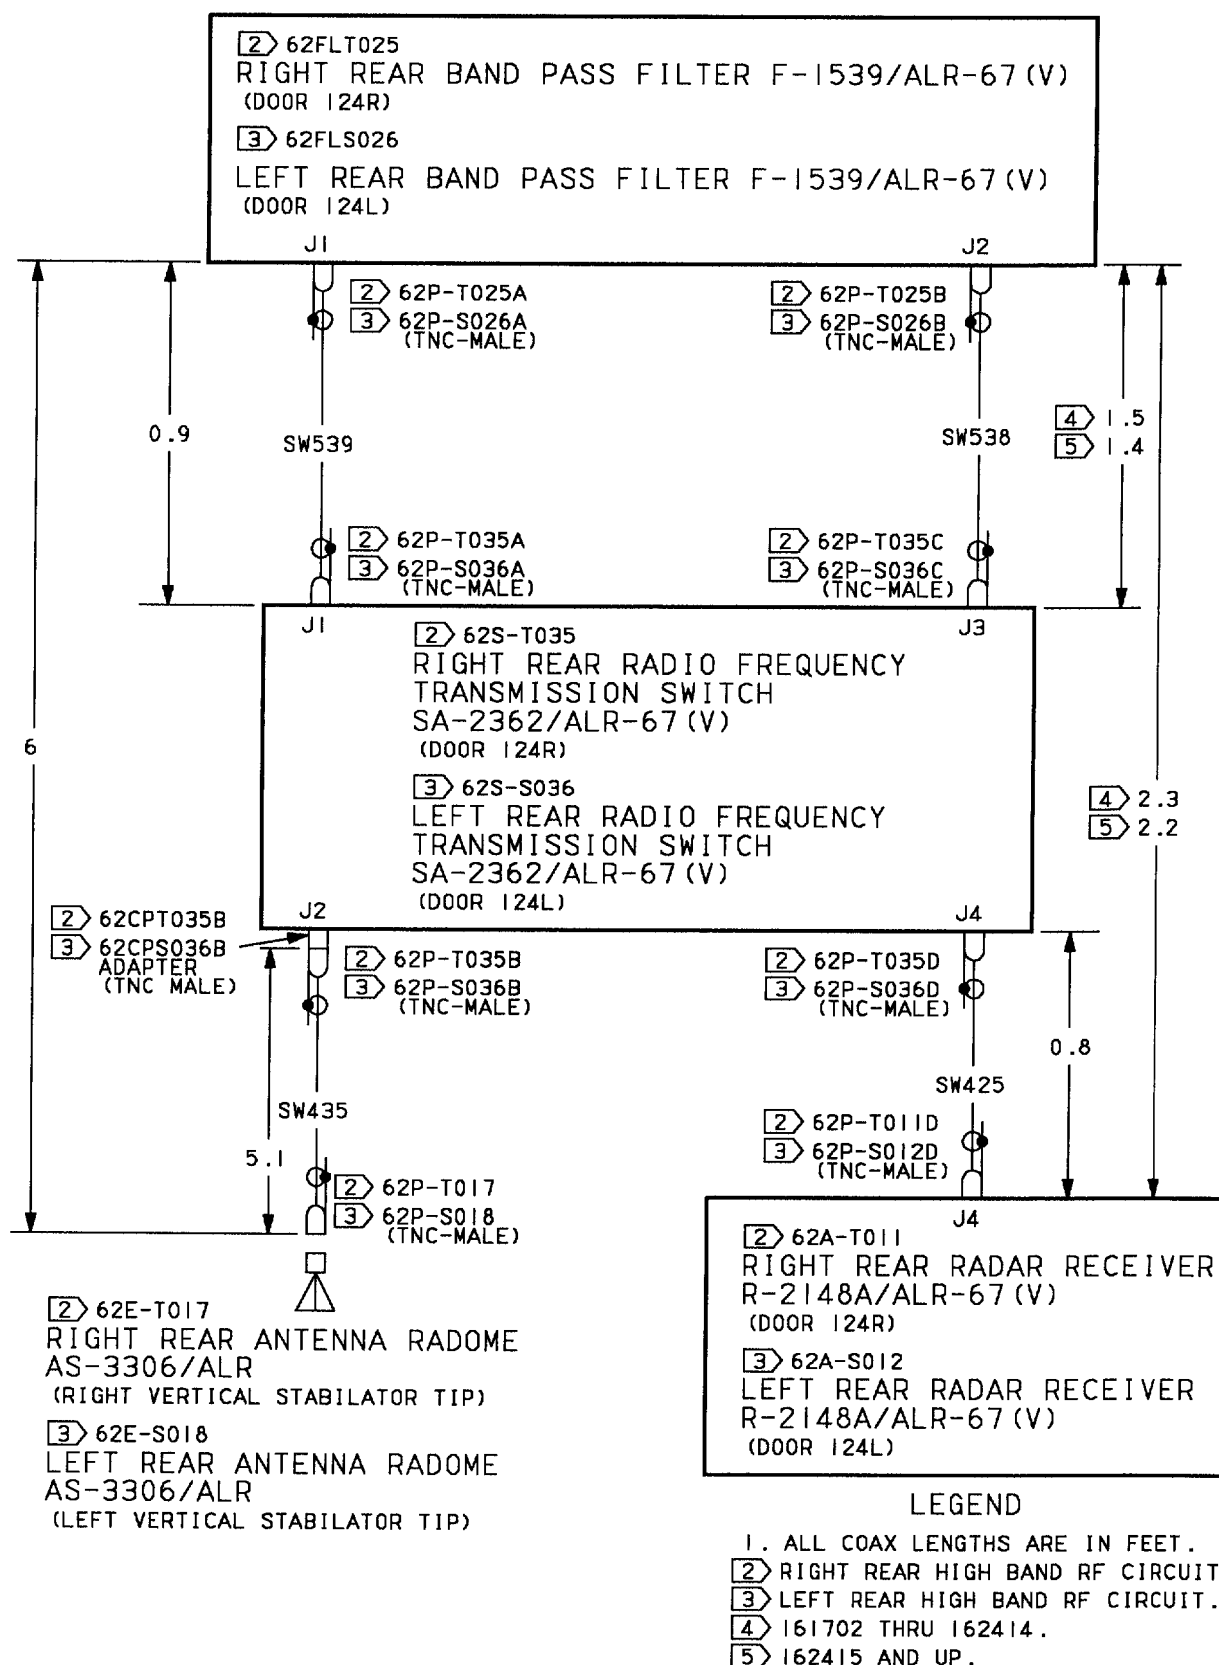

Figure 1. Rear High Band RF Circuits
(2) Use figure 1 for length, and do Fault Location (WP020 00) on weapon replaceable assemblies (WRAs) from 62P-T017 to 62P-T025A.
(3) Does unit under test indicate a fault? .....	b	i
(1) In door 124R, remove lockwire and disconnect 62P-T025B from J2 on right rear Band Pass Filter F-1539/ALR-67(V).
(2) Use figure 1 for length, and do Fault Location (WP020 00) on WRAs from 62P-T025B to 62P-T011D.
(3) Does unit under test indicate a fault? .....	c	d
(1) In door 124R, remove lockwire and disconnect 62P-T035C from J3 on right rear Radio Frequency Transmission Switch SA-2362/ALR-67(V).
(2) Use figure 1 for length, and do Fault Location (WP020 00) on ALR-67 Coax Cable SW538.
(3) Does unit under test indicate a fault? .....	f	e
(1) In door 124R, remove lockwire and disconnect 62P-T035D from J4 on right rear Radio Frequency Transmission Switch SA-2362/ALR-67(V).
(2) Use figure 1 for length, and do Fault Location (WP020 00) on ALR-67 Coax Cable SW425.
(3) Does unit under test indicate a fault? .....	g	h
(2) Use figure 1 for length, and do Fault Location (WP020 00) on ALR-67 Coax Cable SW539.
(3) Does unit under test indicate a fault? .....	k	j
(1) In door 124R, remove lockwire and disconnect adapter 62CPT035B from J2 on right rear Radio Frequency Transmission Switch SA-2362/ALR-67(V).
(2) Use figure 1 for length, and do Fault Location (WP020 00) on ALR-67 Coax Cable SW435 and adapter 62CPT035B.
(3) Does unit under test indicate a fault? .....	g	l
(1) Remove lockwire and disconnect adapter 62CPT035B from 62P-T035B.
(2) Use figure 1 for length, and do Fault Location (WP020 00) on ALR-67 Coax Cable SW435.
(3) Does unit under test indicate a fault? .....	n	m
Rear High Band RF Circuit, Figure 1, must be used with this procedure.
(1) In door 124L, remove lockwire and disconnect 62P-S036C from J3 on left rear Radio Frequency Transmission Switch SA-2362/ALR-67(V).
(3) Does unit under test indicate a fault? ....	f	e
(1) In door 124L, remove lockwire and disconnect 62P-S036D from J4 on left rear Radio Frequency Transmission Switch SA-2362/ALR-67(V).
(3) Does unit under test indicate a fault? ....	g	h
(1) In door 124L, remove lockwire and disconnect 62P-S036A from J1 on left rear Radio Frequency Transmission Switch SA-2362/ALR-67(V).
(3) Does unit under test indicate a fault? ....	k	j
(1) In door 124L, remove lockwire and disconnect adapter 62CPS036B from J2 on left rear Radio Frequency Transmission Switch SA-2362/ALR-67(V).
(2) Use figure 1 for length, and do Fault Location (WP020 00) on ALR-67 Coax Cable SW435 and adapter 62CPS036B.
(3) Does unit under test indicate a fault? ....	g	l
(1) Remove lockwire and disconnect adapter 62CPS036B from 62P-S036B.